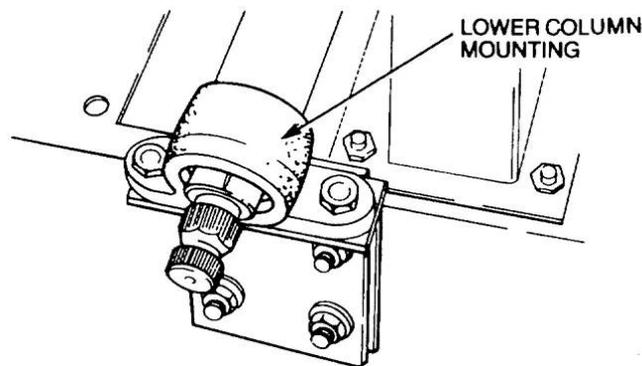

Figure 138 Removal of the Steering Column Lower Mounting
- k. Remove the six bolts securing the brake pedal bracket to the firewall and carefully remove the bracket. Remove the two bolts securing the lower end of the column to the firewall (Figure 138).
- d. Loosely secure the lower end of the column to the lower support bracket with the two nuts and bolts (Figure 138).